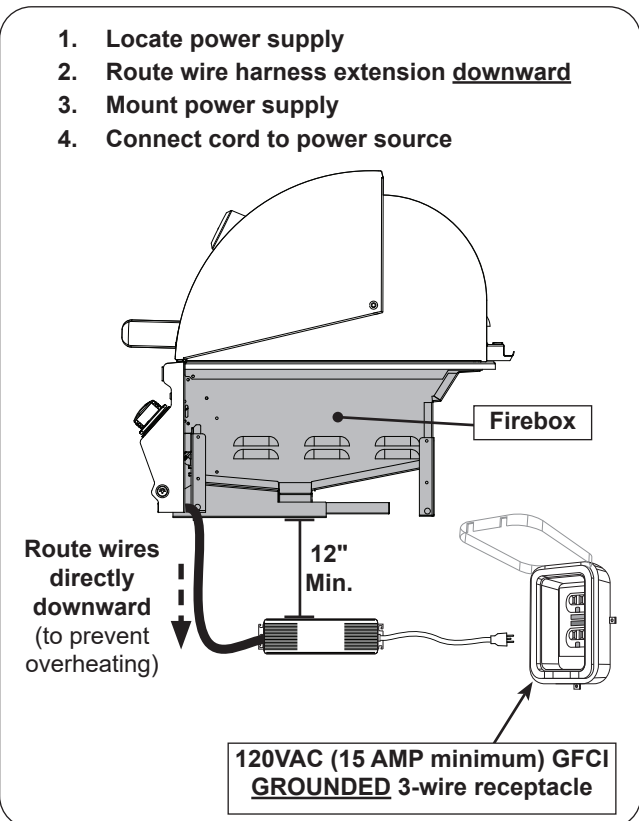

Fig. 28-2 Electrical installation
1. Route the power supply below the control panel and directly downward. This will prevent overheating. **DO NOT** route the harness below the unit firebox. See Fig. 28-2.
- located at least **12"** below the bottom of the unit (see Fig. 28-2)
3. Connect the power cord to a **120VAC (15 AMP minimum) GFCI GROUNDED** three-wire receptacle (see Fig. 28-2). The GFCI receptacle must be a WEATHER-PROOF IN-USE COVERED RECEPTACLE.